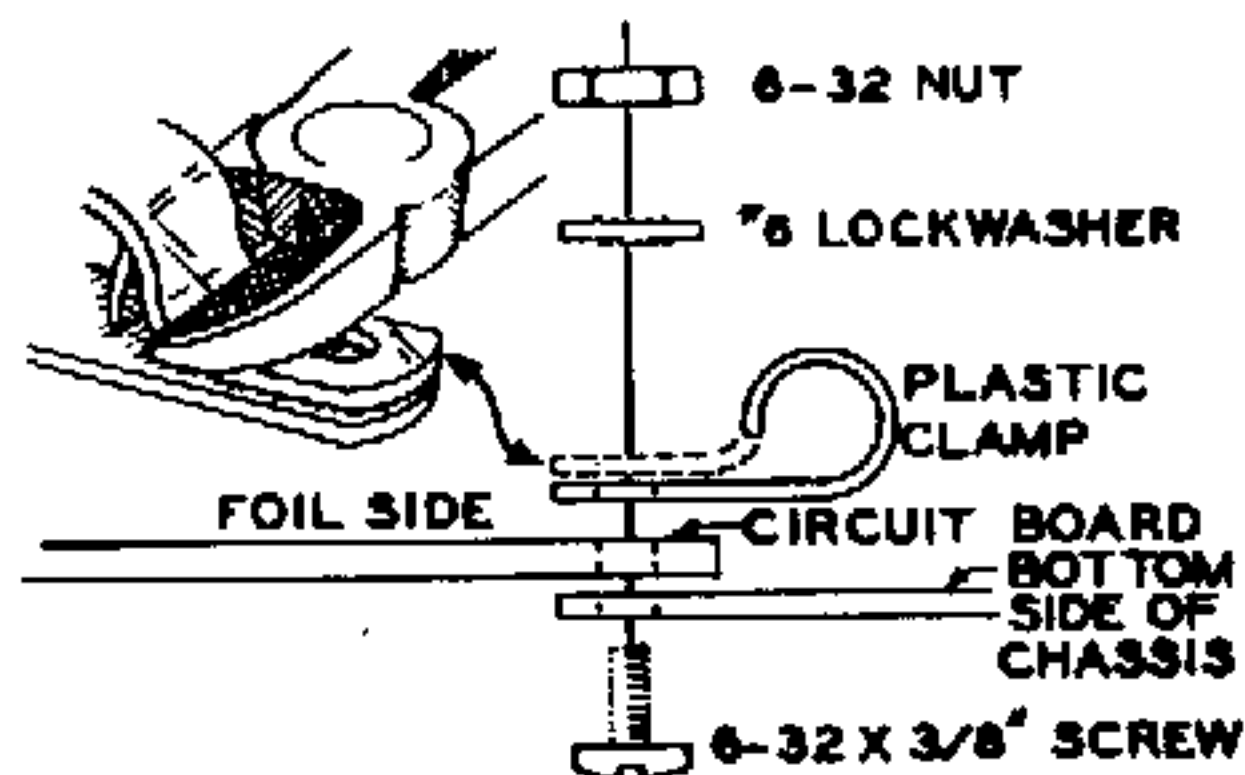

Figure 10
- () Refer to Pictorial 1 and install the circuit board under the chassis, using sixteen 6-32 x 3/8" screws, #6 lockwashers, and 6-32 nuts. Prepare the plastic clamp as shown in Figure 10 and install it under the mounting screw at R on the circuit board.